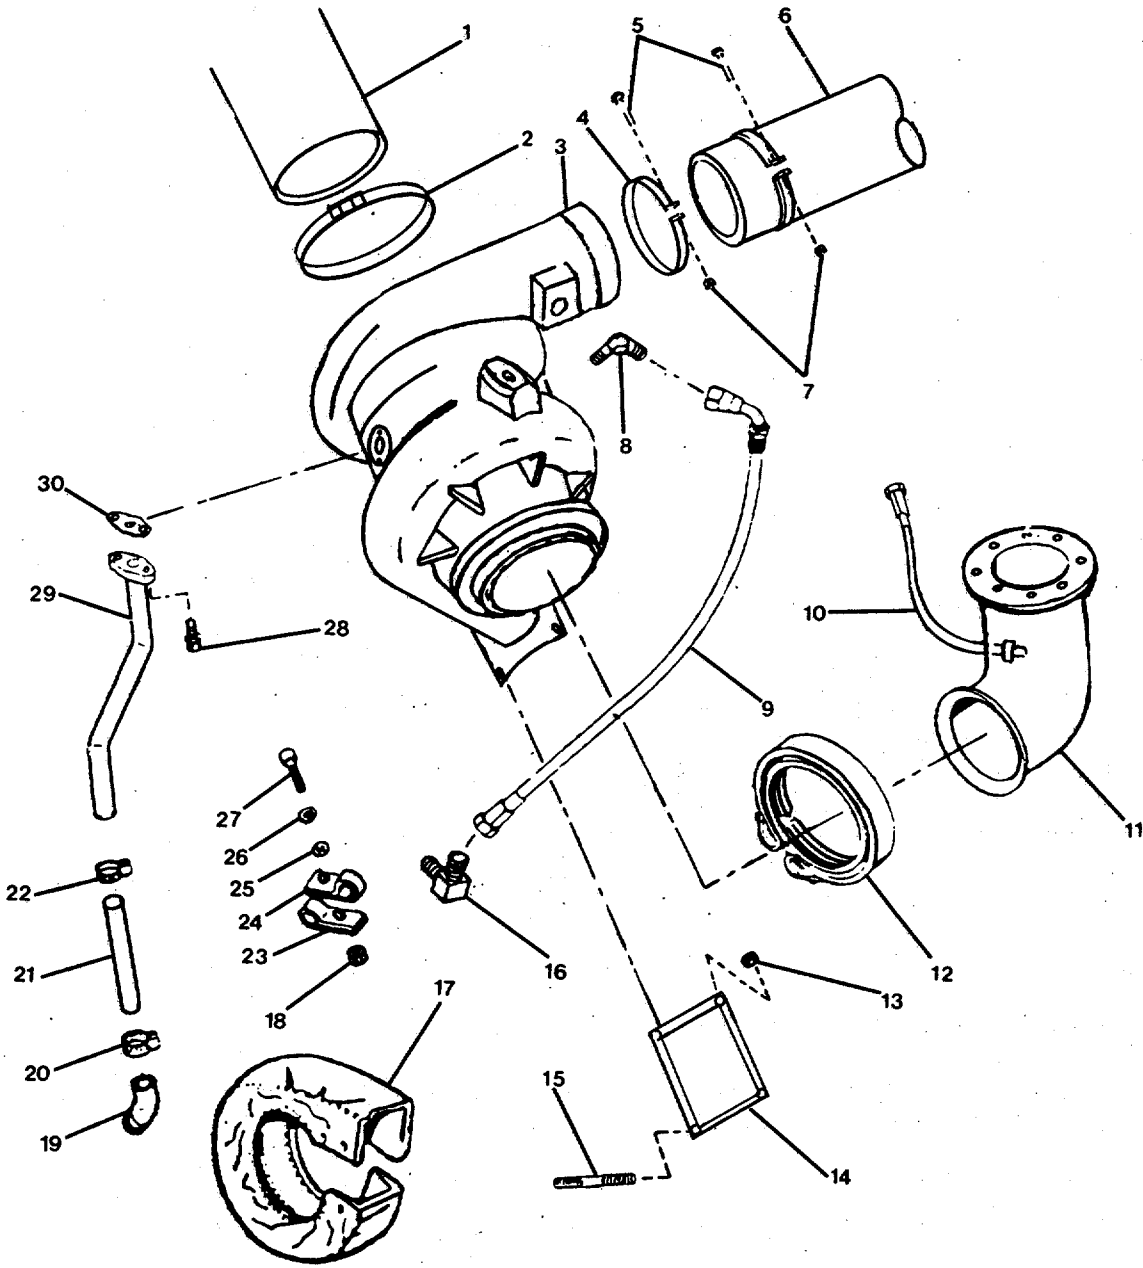
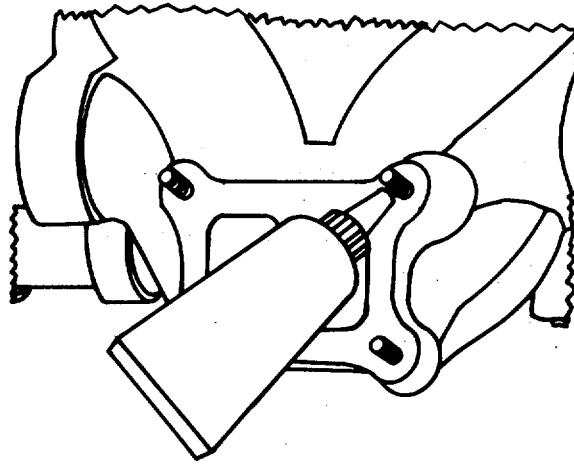

FIGURE 2-16. Turbocharger Group.
FIGURE 2-18. Anti-Seize Application.
- a. Insert the clean or new element (10) into the air cleaner (5), making sure that it seats properly on the gasket end.
- c. Install metallic tube (11) and nonmetallic elbow (2).
- d. Mount air cleaner unit with air cleaner straps (3) and install bolts (9), nuts (7), and washers (8).
- e. Connect the air cleaner (5), nonmetallic elbow (2) and air inlet metallic tube (11) and preformed hose (12) with hose clamps (1, 13).
- f. Install filter warning indicator (14).
**2-26. Replace/Repair Turbocharger Group. (FIGURE 2-16)**
- a. Remove tape covering engine air inlet (1, FIGURE 2-16) and exhaust outlet (11) to turbocharger (3).
- b. Apply a coat of anti-seize compound to the threads (FIGURE 2-18) of the turbocharger mounting studs (15, FIGURE 2-16).
- c. Install turbocharger gasket (14) onto exhaust manifold. The raised bead on the gasket surface must be toward the turbocharger (3).